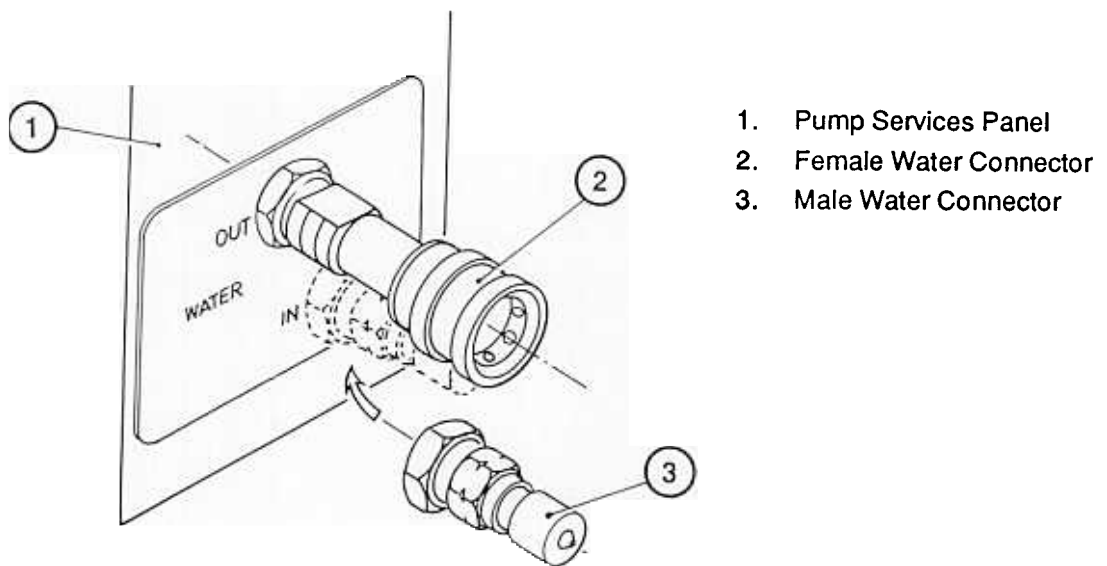

Figure 14 - Cooling Water Connections
2. Fit these connectors to the cooling water service supply and return hose pipes (see Figure 14) using $\frac{3}{8}$ inch BSP male pipe fittings (to be supplied by the customer).